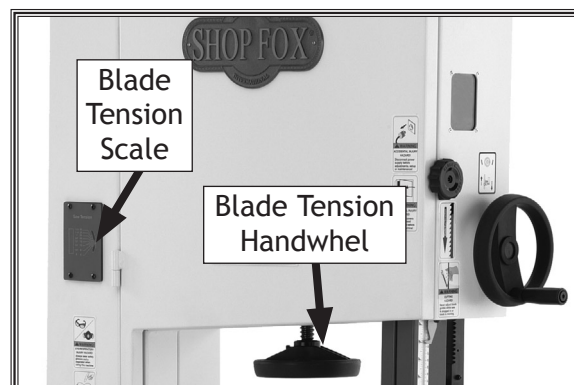

Figure 26. Front blade tensioning controls.
3. Move the quick tension lever to the tightened position and turn the blade tension handwheel until the blade tension matches the mark on the blade tension scale (see **Figure 26**) for the appropriate blade width.